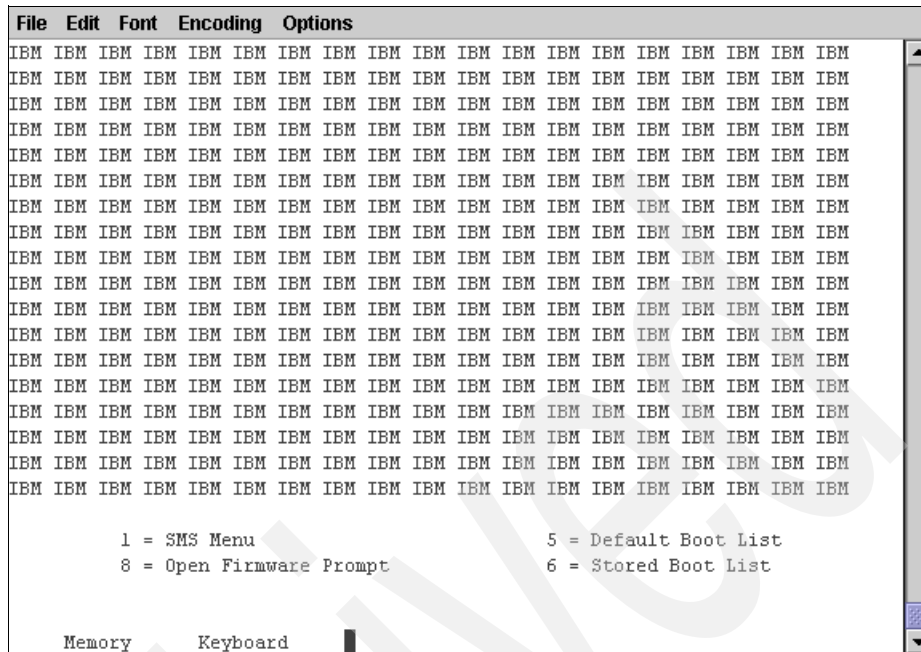

Figure 6-8 SMS menu
2. The SMS menu appears in the IVM terminal (Figure 6-8 on page 291).